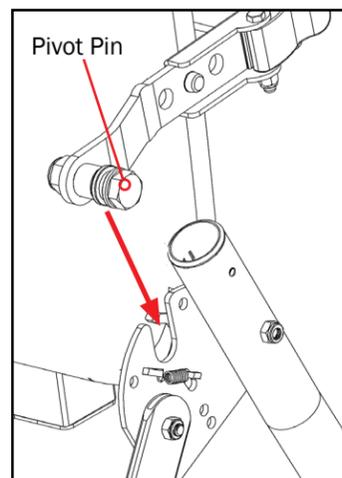
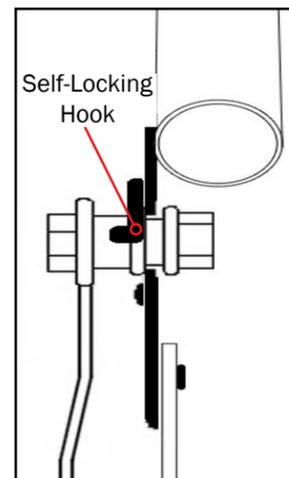

Figure 6
Figure 7
- Holding each side near the Roller Hinges, pick up the Table Bed and stand at the front of the A-frame where the crossbar is located. Lower each pivot pin into the A-frame hinge plates at the same time (Figure 6). Figure 7 shows the correct placement of the pivot pin into the hinge plate.
- Make sure that both pivot pins are seated at the base of the slot in the hinge plate. Check to make sure that the self-locking hooks have closed over both pivot pins (Figure 7), and the table rotates smoothly.